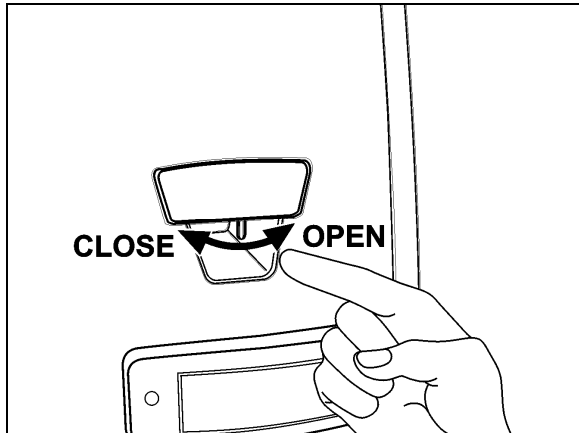

FIGURE 13: DOOR OPERATING SWITCH
1. Remove 6 nuts (3 on each side) holding bumper assembly to vehicle and remove bumper (Fig. 13).